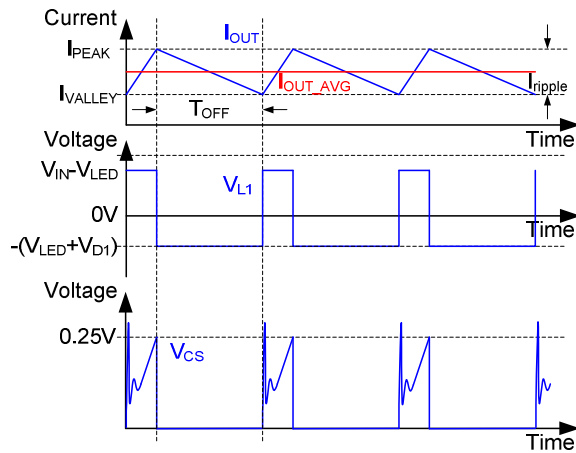

Figure-5 The waveforms of V_{CS} , V_{L1} and I_{OUT} that shown in the Figure-1.
GR1001 operates with the peak current sensing and the constant off time. The peak current sensing and the line voltage compensation align the peaks of V_{CS} identically to determine the same I_{PEAK} that shown in the Figure-5. The I_{VALLEY} was determined by the T_{OFF} . GR1001 provides an off time setting function via connect a resistor from RT to GND. A simple way is connect RT to VCC directly to use the default off time that the value is approximately 9.3 μ s.
The (2) and (3) were generated according to the Figure-5. They usually used to determine the inductance of the power inductor.
Where, the I_{OUT} is output current that user defined, the K is the percentage of I_{OUT} to estimate the worse case and the value usually is range of 20%~40%. Beside, the maximum rate current and saturation current of the inductor must greater than the I_{PEAK} that shown in the Figure-5.